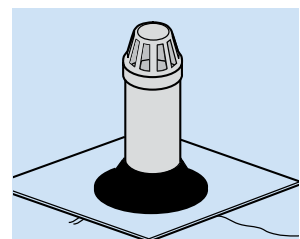

Fig. 60
- Place 150 Vent Cowl on open end of soil stack (do NOT solvent-weld at this stage). Slide 149 Weathering Slate over stack. Push slate (and its rubber cone) down onto first layer of felt (Fig. 60)